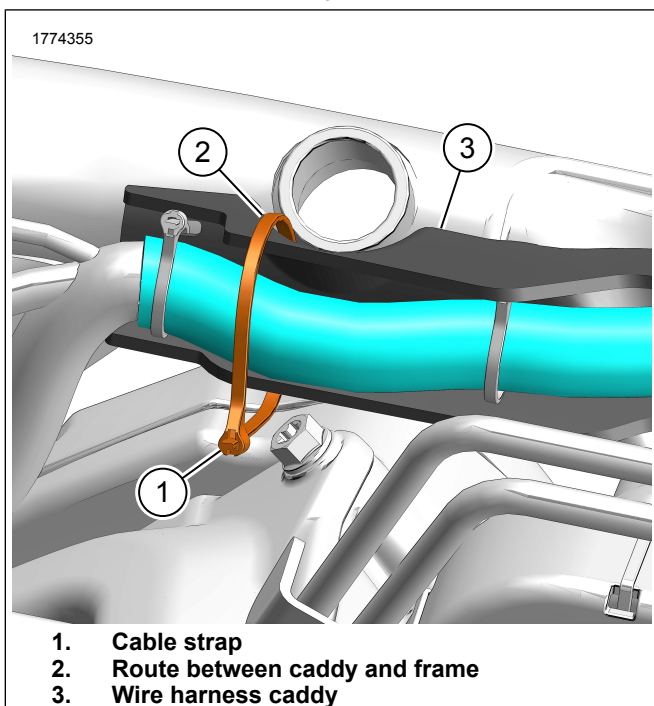

Figure 3. Wire Harness Caddy
- Inspect Alternating Current (AC) side connection to the regulator. Drag test terminals and crimp tight if required.
- See Figure 3. Inspect engine harness at caddy as it routes between the right upper frame rail and front cylinder head. If wire bundle is making contact with the cylinder head, use cable straps to secure wires in caddy. Make sure to orientate cable strap(s) as shown in graphic.